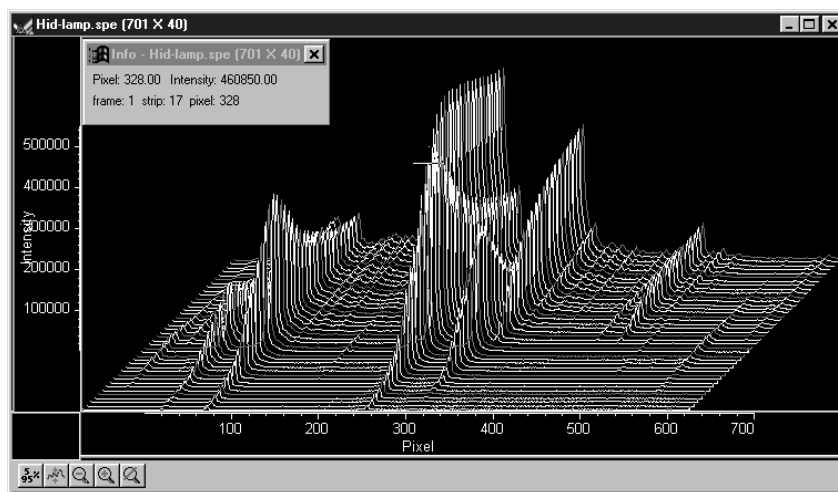

Figure 85. 3D display with cursor curve and marker curves
1. On the 3D Layout tab page, select **Highlight Cursor Curve** and **Marker Curves On**. Then press **OK**. The cursor curve and marker curves should be clearly delineated. Note that on a color monitor they would be in contrasting colors and much easier to see than in a black and white print as shown in Figure 85.